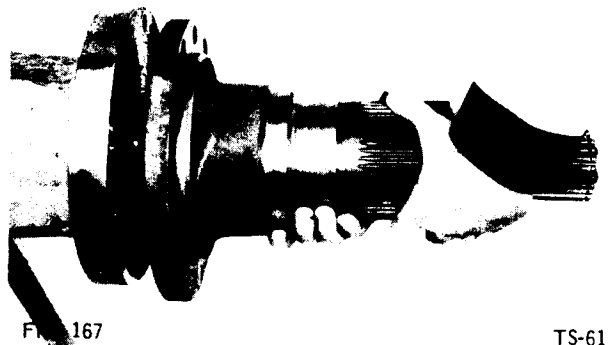

FIG. 167
12. Position spindle on spindle support assembly (Fig. 167).